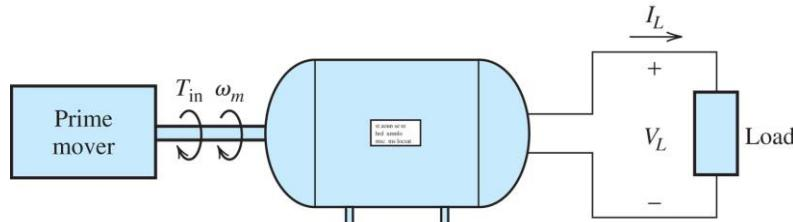

Figure 3.1 DC Machine operation flow
3. (a) State all types of power and loses involved (including the equation) for dc machine operation as in Figure 3.1